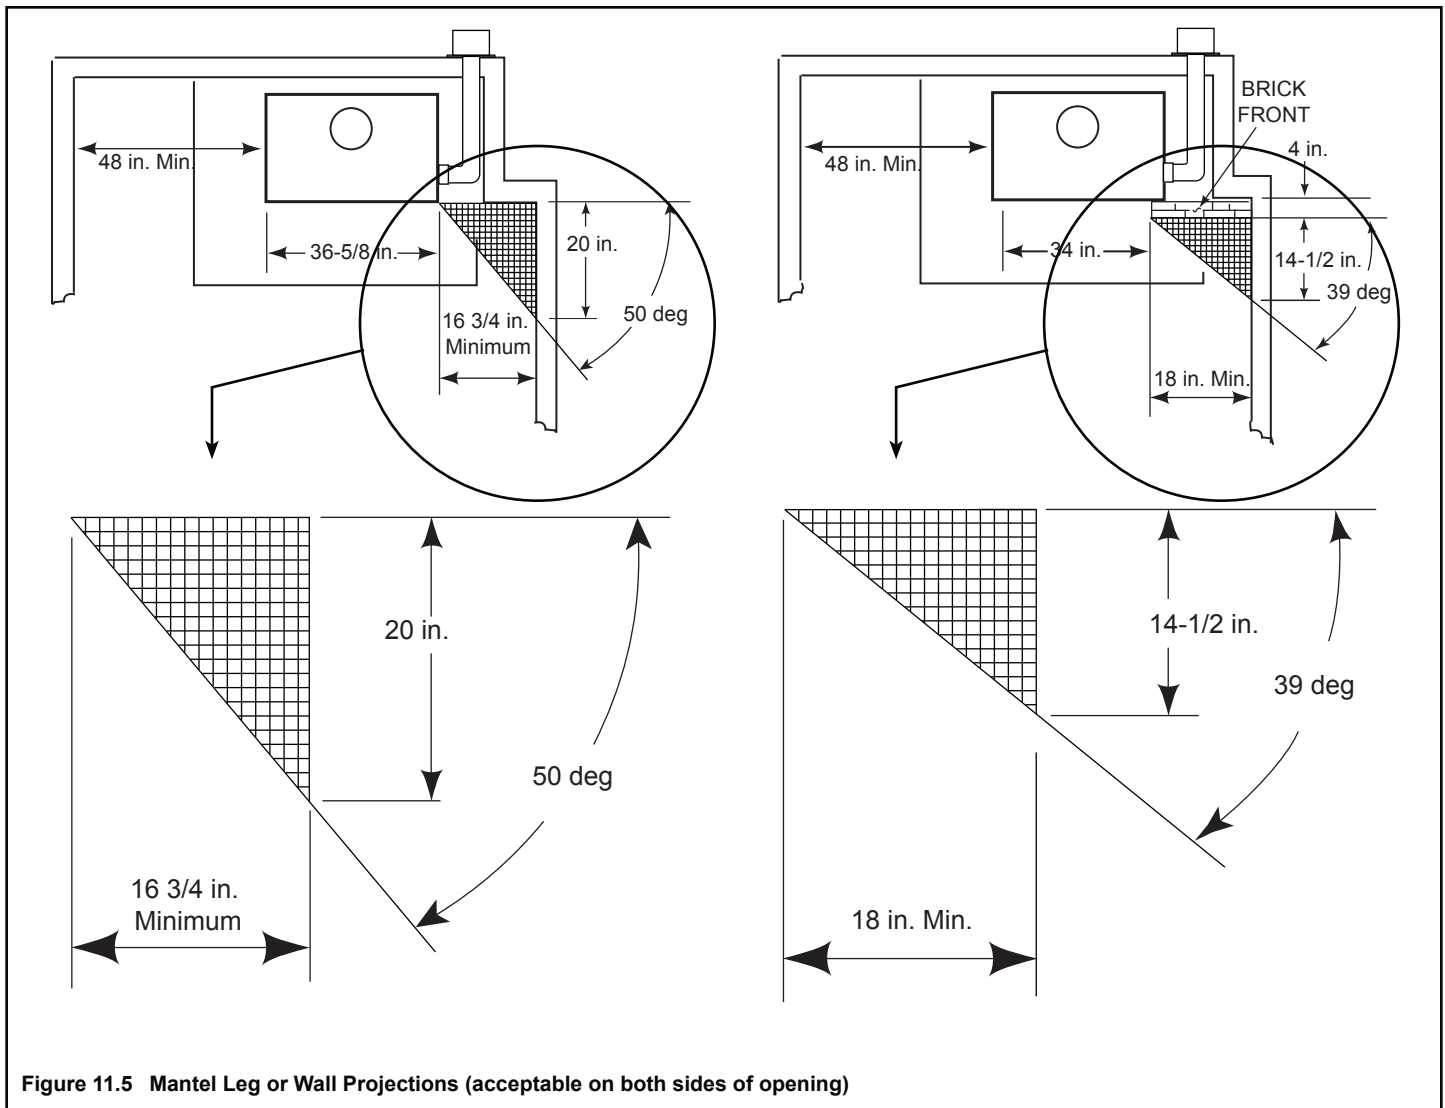

Figure 11.5 Mantel Leg or Wall Projections (acceptable on both sides of opening)
- Combustible or non-combustible mantel legs, surrounds and stub walls may be constructed per Figure 11.5.